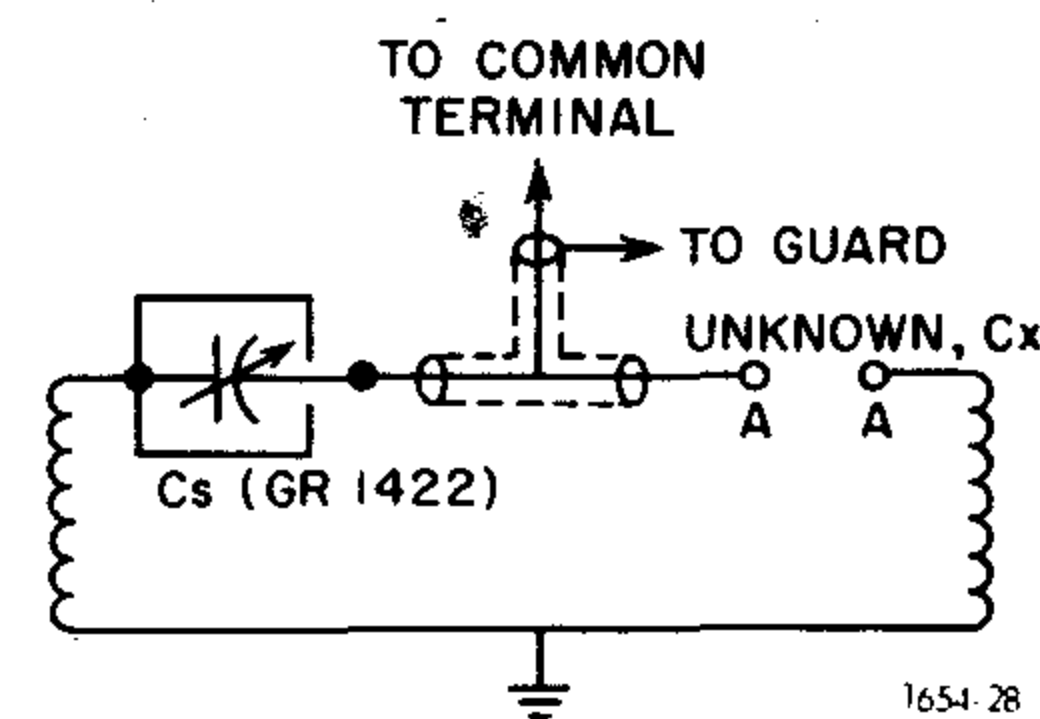

Figure 4-11. Measurement of small dissipation factors.
When the dissipation factor of small capacitors is measured, a large ΔZ reading can result in an error caused by input-capacitance phase shift, as well as other errors (refer to paragraph 3.11). If the ΔZ meter is nulled, these difficulties are removed. If the capacitor is very small, there is also an attenuation error (A) requiring correction. One setup that has been used to measure very small values of D is shown in Figure 4-11.